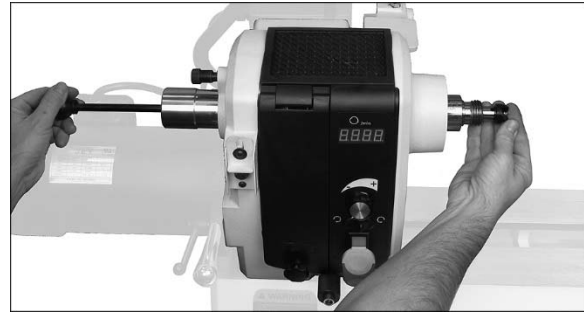

Figure 7-8: removing spur center
3. To *remove* a center, first remove workpiece from lathe. Insert knockout rod (Figure 7-8)